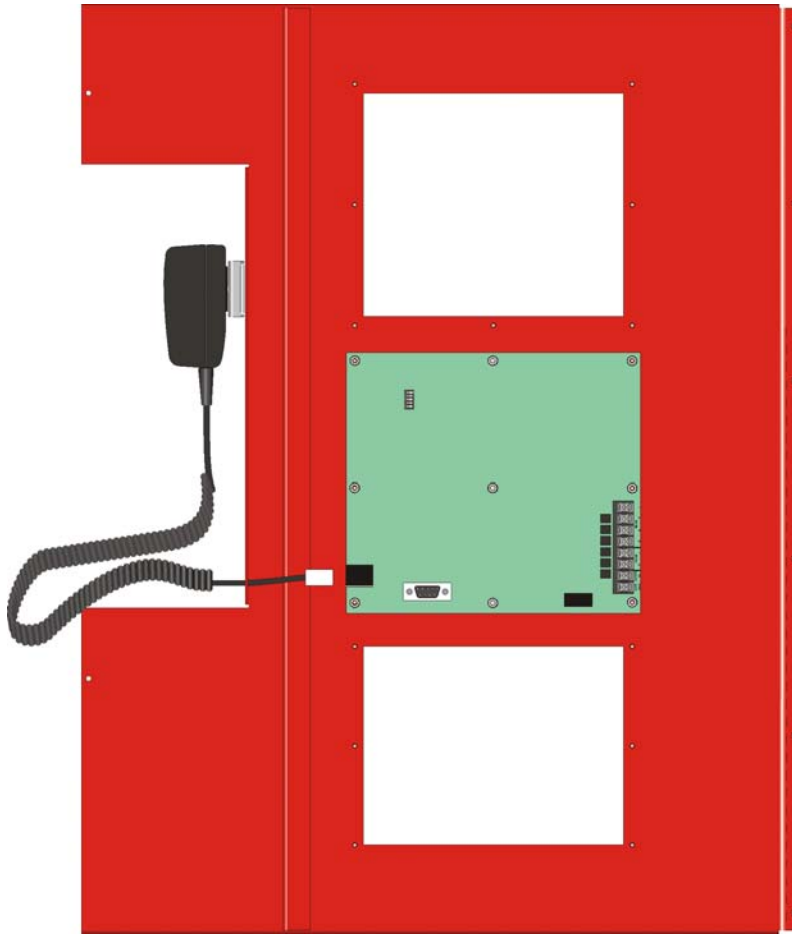

Figure 3-12 Back View of Dead Front Panel
4. Unplug the Microphone from the microphone connector. See Figure 3-12.